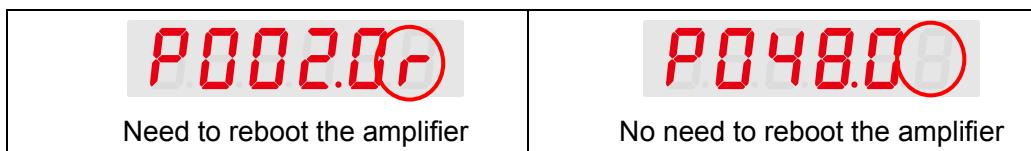

Figure 4-6-1 Indicator of If Rebooting Amplifier is Needed
- [r] in the end is either “blank” or “r” as shown in Figure 4-6-1. If “r” is displayed, it’s necessary to reboot the amplifier after saving the parameter. Refer to §4-8 “Parameter Saving Mode” in this chapter.